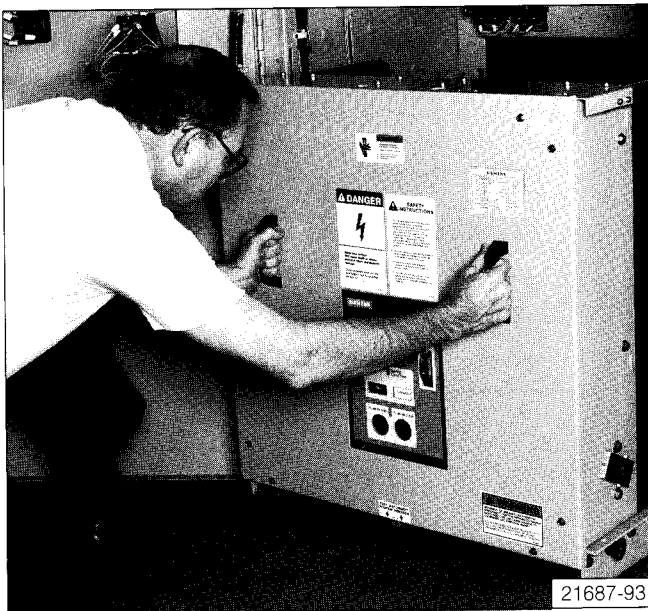

Figure 4: Removal of Circuit Breaker.
6. The circuit breaker is now free to be rolled out on the floor using the handles as shown in **Figure 4**. The wheels of the circuit breaker are virtually at floor level (unless the switchgear is installed on a raised pad), and one person can easily handle the unit.